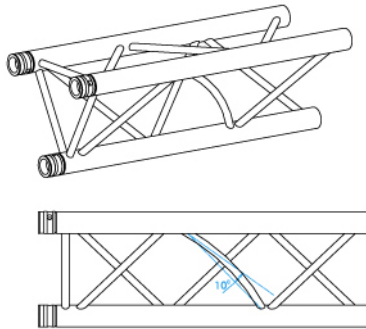

Figure 17 Bending of the braces
2. Any of the braces being bent out of the centerline by more than 10° (see figure 17).